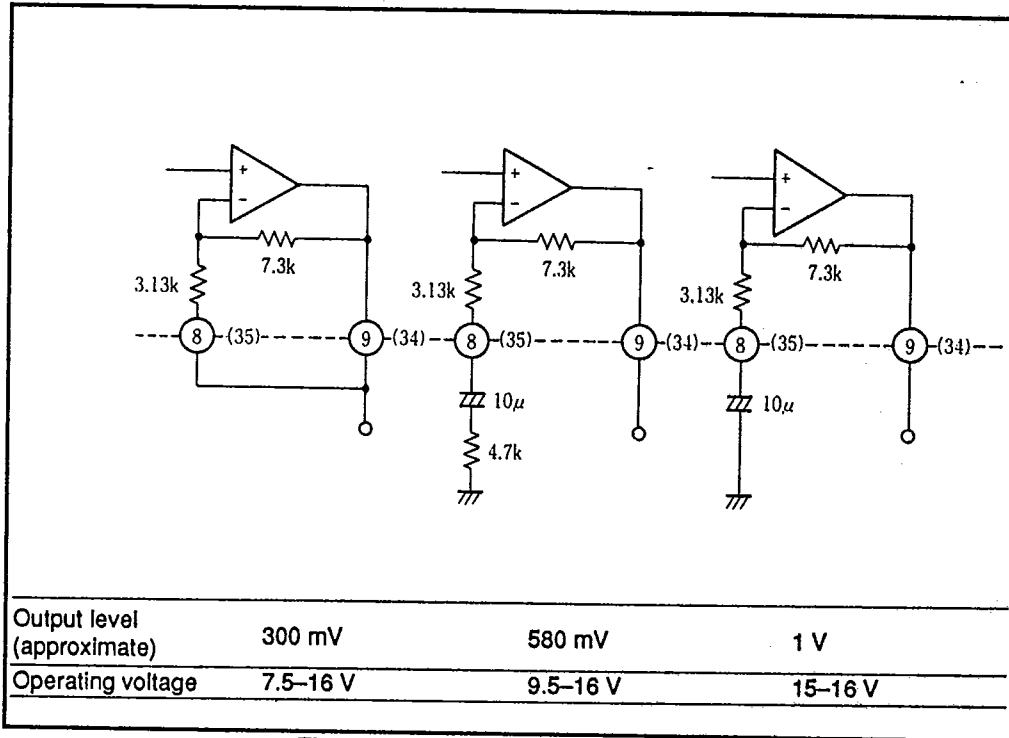

Figure 4 Circuit Configuration Diagrams
**Note:** The circuit shown in the block diagram gives a reference output level of 300 mV. By using the circuit configurations shown in figure 4, it is possible to select a higher line of output levels.